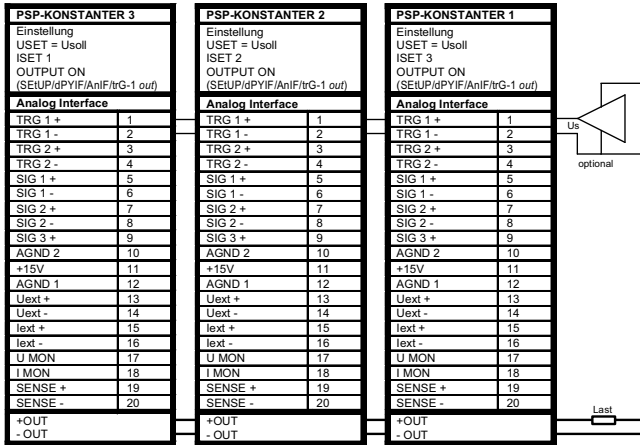

Figure 7.9.1a Wiring for Direct Parallel Connection
- The outputs can be activated and deactivated commonly by connecting the trigger inputs in parallel (see figure 7.9.1a, optional connection) or series (setting: "SETUP/dPYIF/AnIF/trG-1 out").